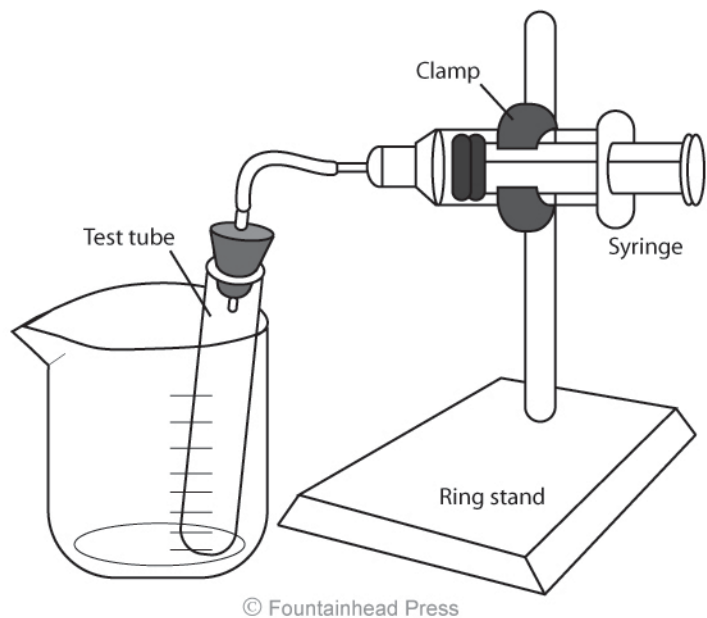

Figure 1. Apparatus for collection of $H_2(g)$.
Equipment: Gas collection apparatus (pre-assembled; see Figure 1); ring stands and clamps; tweezers; 100-mL beaker; 250-mL beaker
By reacting a known mass of Mg in an excess of HCl, we can calculate the exact number of moles (n) of $\text{H}_2(\text{g})$ that will be produced. By running this reaction in a closed system (see Fig. 1) we can collect and measure the volume (V) of $\text{H}_2(\text{g})$ that is produced in a syringe. If atmospheric pressure (P) and temperature (T) are known, then Eq. (11) can be rearranged to solve for R :
1. Obtain all the parts necessary to construct the gas collection apparatus shown in Figure 1. If not already assembled, assemble as instructed and have your lab instructor inspect it before proceeding. Be sure that the plunger assembly is lubricated and slides easily when pressure is applied.